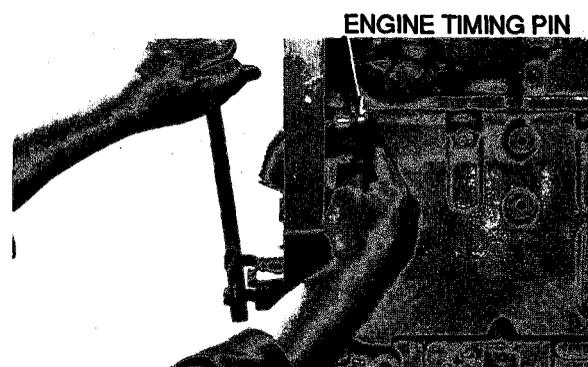

Figure 7-2
1. Barring engine slowly, push in engine timing pin until pin engages (Figure 7-2).